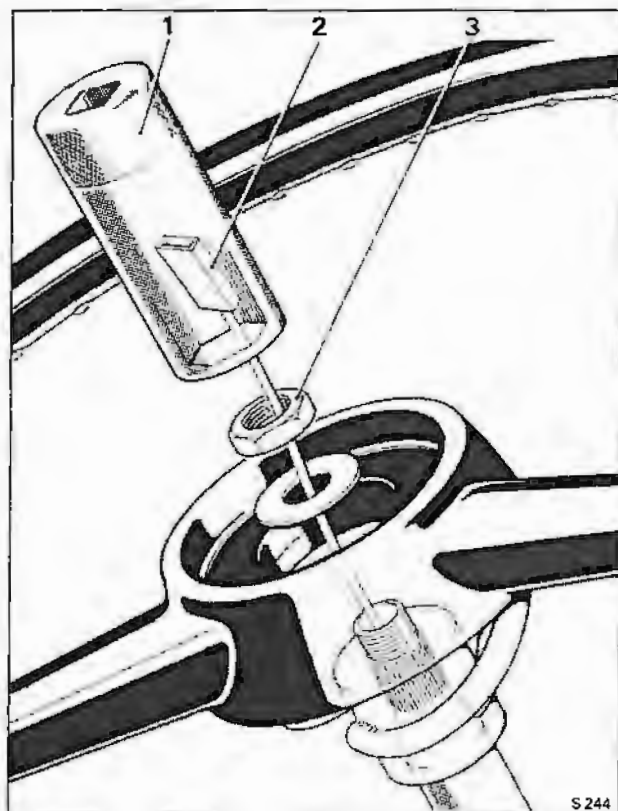

Fig. N4-2 Steering wheel fitting
6. Remove the steering wheel centre nut and washer (see fig. N4-2).
Steering wheel – To fit (see fig. N4-2)